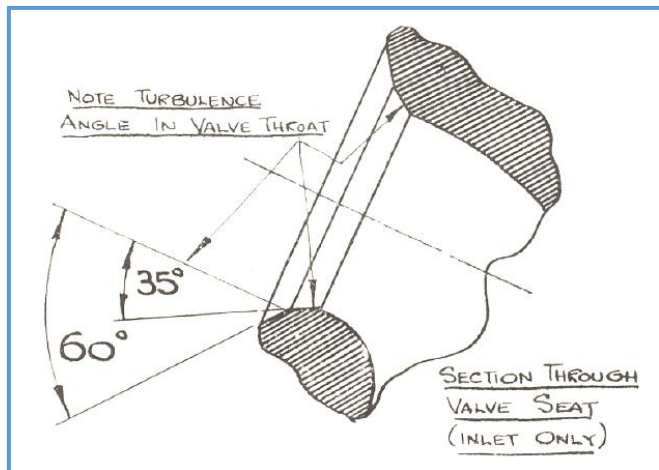

Figure 4. Section through valve seat.
- e) **Valves** – The Valves and Seats must be in first-class condition, with no signs of pitting or excessive narrowness. A seat width of $\frac{3}{32}$ " should be maintained for the Exhaust Valve and $\frac{1}{16}$ " for the Inlet Valve. It is important that the turbulence angle is maintained on the Valve Seats, as shown in Fig 4.
Special constant mesh Gears, providing a higher ratio in the Intermediate Gears, are available, and we are, therefore, including a chart showing the road characteristics with the various ratios (Fig. 4). These carry our Part Numbers as follows: